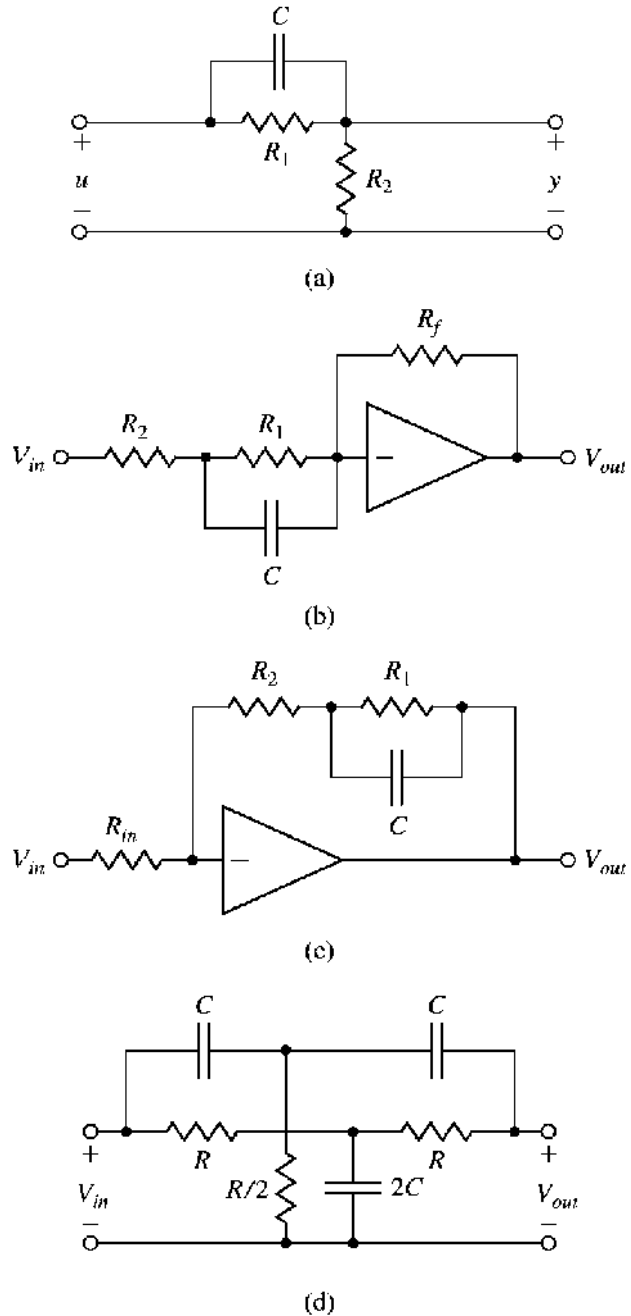

Fig. 2.54 (a) Passive lead, (b) active lead, (c) active lag, (d) passive notch circuits
17. Write the dynamic equations and find the transfer functions for the circuits shown in Fig. 2.54.